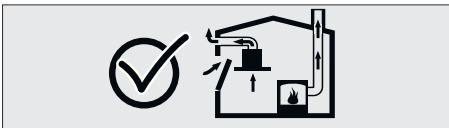

Fig. 7
- Therefore, adequate fresh air ingress must always be ensured. Fig. 7